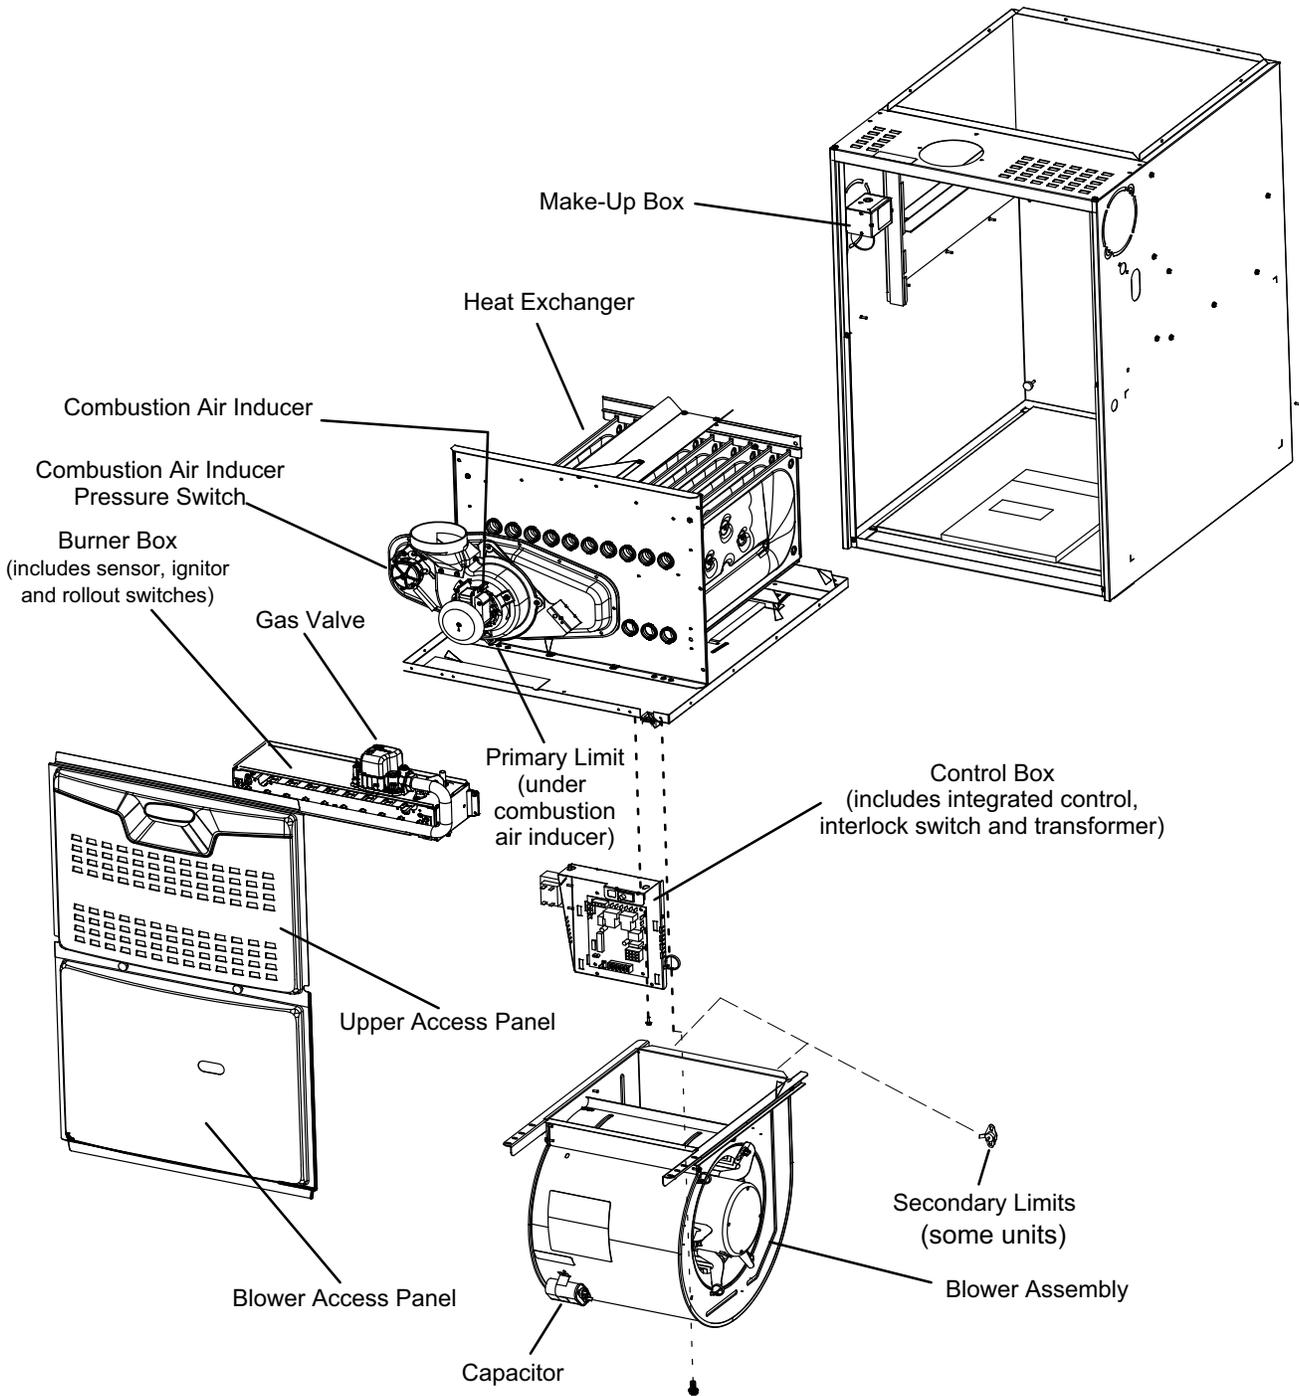
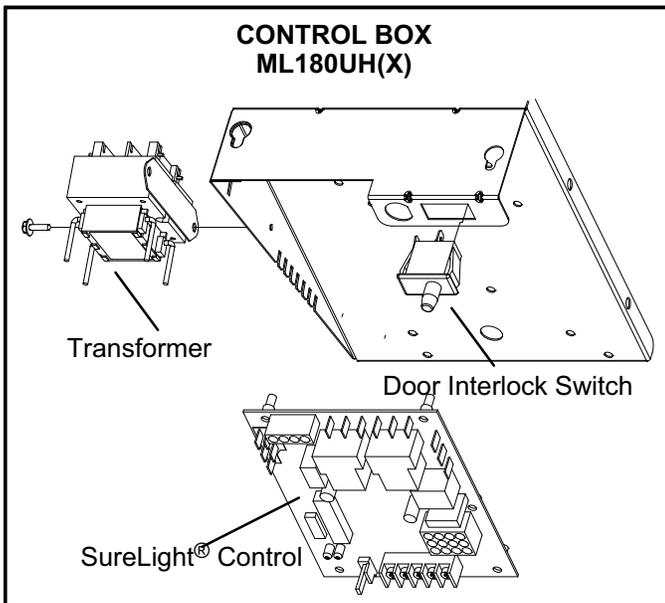

FIGURE 1
FIGURE 2
ML180UH(X) unit components are shown in figure 1. The gas valve, combustion air inducer and burners can be accessed by removing the upper access panel. Electrical components are in the control box (figure 2) found in the blower section.